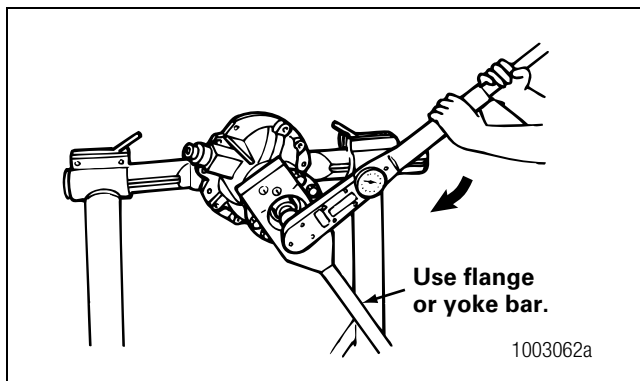

Figure 5.37
4. Install the drive pinion nut, and washer if required onto the input pinion shaft and against the yoke collar. Use a flange or yoke bar to tighten the nut against the yoke collar to torque specifications. Figure 5.37. Refer to Section 8.